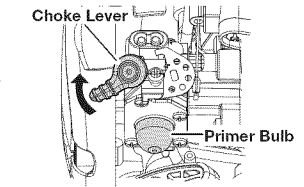

Fig. 9
3. Fully press and release the primer bulb 10 times, slowly. Some amount of fuel should be visible in the primer bulb and fuel lines (Fig. 9). If fuel can not be seen in the bulb, press and release the bulb until fuel is visible.
4. Flip the choke lever clockwise until it clicks (Fig. 9).
3. Fully press and release the primer bulb 10 times, slowly. Some amount of fuel should be visible in the primer bulb (Fig. 9). If fuel cannot be seen in the bulb, press and release the bulb until fuel is visible.